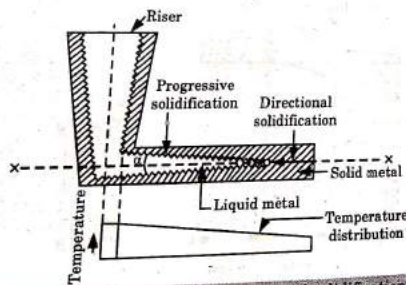

Fig. 1.6.3. Progressive and directional solidification.
1. When gating system controls the progressive solidification such that no portion of the casting is isolated from liquid metal feeding channels during the process of complete solidification, this is referred to as directional solidification shown in Fig. 1.6.3.